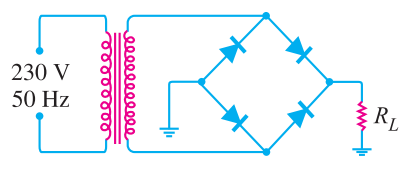

**Fig. 6.75**
4. Determine the magnitude of  $V_A$  in the circuit shown in Fig. 6.75. [9.5 V]